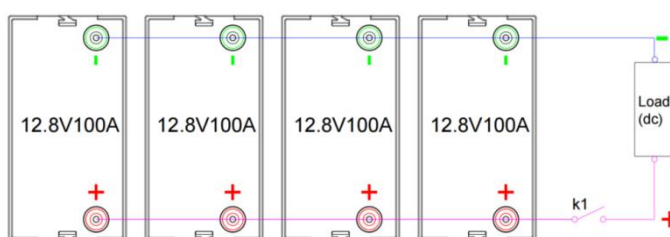

Figure 5-2 Parallel Application: 1S4P,12.8V400Ah
- Parallel connection schematic (up to 4 in parallel, 12.8V400Ah), as in Figure 5-2